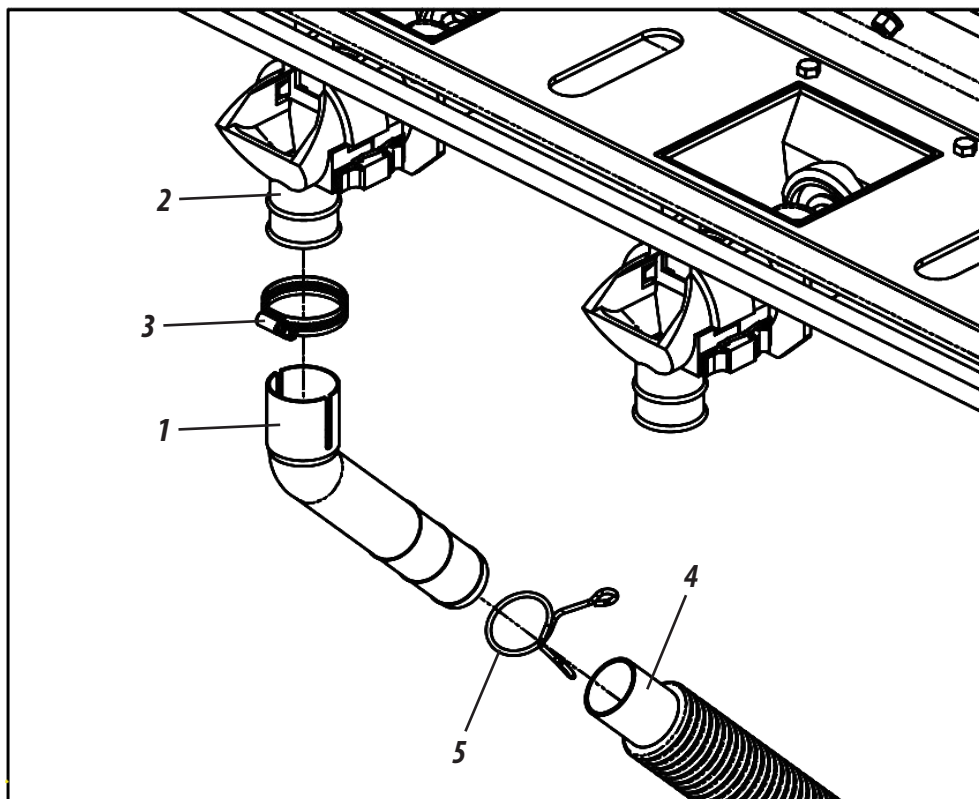

Figure 38
### FERTILIZER CONDUCTOR FERTISYTEM SYSTEM (FIGURES 38/39)
Then place the hoses (4) on the spouts in degree (1) through the clips (5), as shown in figure 38.